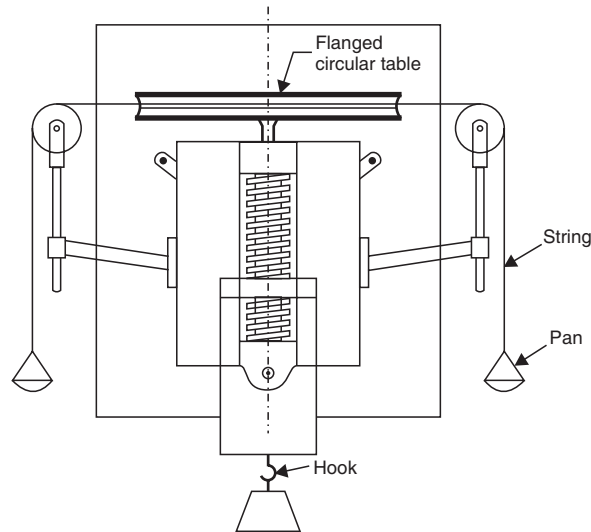

Fig. 6.1. Simple screw jack apparatus.
**Apparatus.** Screw jack apparatus (Fig. 6.1), weights, string, vernier calliper, outside calliper, metre rod etc.
4. Hang a known weight ( $W$ ) on the hook (as shown in Fig. 6.1) and some weights in the pans so that the load  $W$  is just lifted, the effort  $P$  is equal to the sum of weights placed in both the pans.